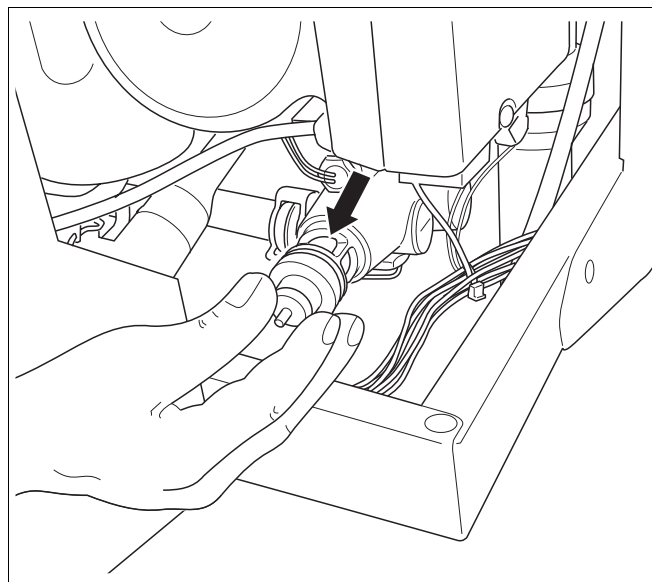

fig. 103 Remove the internal mechanism of three-way valve
- Remove the internal mechanism of the three-way valve (→ fig. 103).